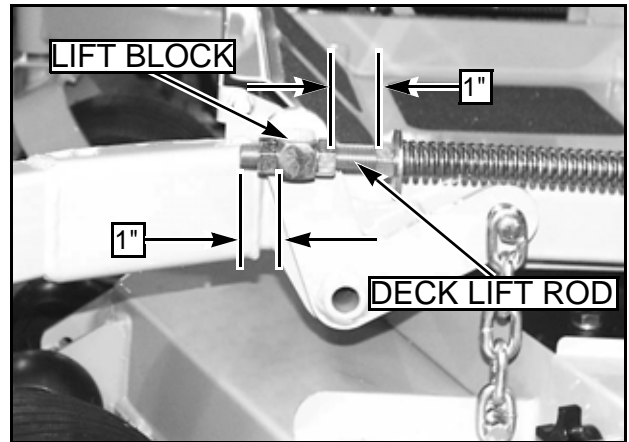

FIG. 66
9. Set the amount of threads protruding on the deck lift rod from the lift block at approximately 1" "FIG. 66".
27. Compress the deck lift assist springs so that there is 1" of space between the front nut and on the spring and the rear nut on the deck lift block "FIG. 66". Typical both sides.